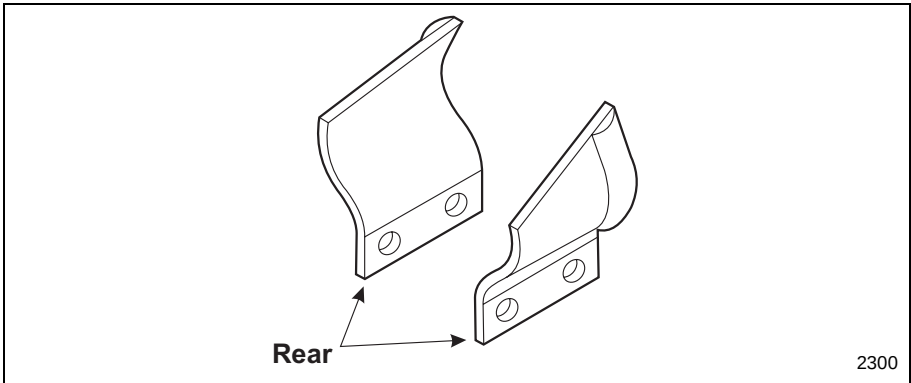

Figure 23 Tooth Direction
There are two types of teeth, cupped and triangular rock teeth. Cupped teeth are designed to cut through and remove soil. Triangular rock teeth cut rock and other hard ground. The teeth are cupped or angled differently depending on which side of the chain they are intended to be fastened (i.e., either left or right). The teeth are fastened to the chain links using bolts, nuts, tubes, and spacers of varying sizes. Figure 23 illustrates the various components of several tooth configurations.
- Make sure to orient the tooth in the proper direction. **Figure 23** shows the rear of the tooth. If the tooth is installed backwards, the trencher chain will not work properly.